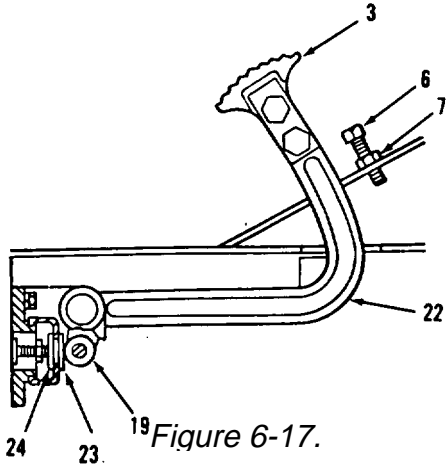

Figure 6-17.
1. Pump pedal (22, Figure 6-17) on right side of cab floor to drop line pressure to zero.